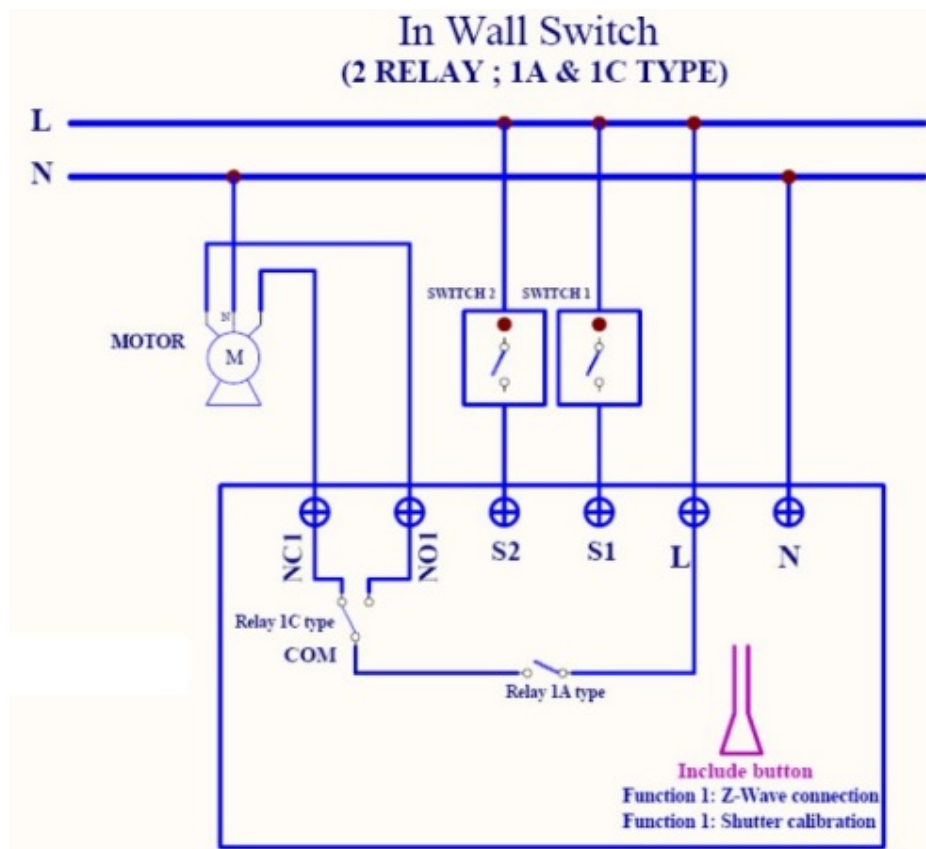

Fig 1. Assembling Installation and operation
2. Connect the wall switch to the PAN34 as Fig1